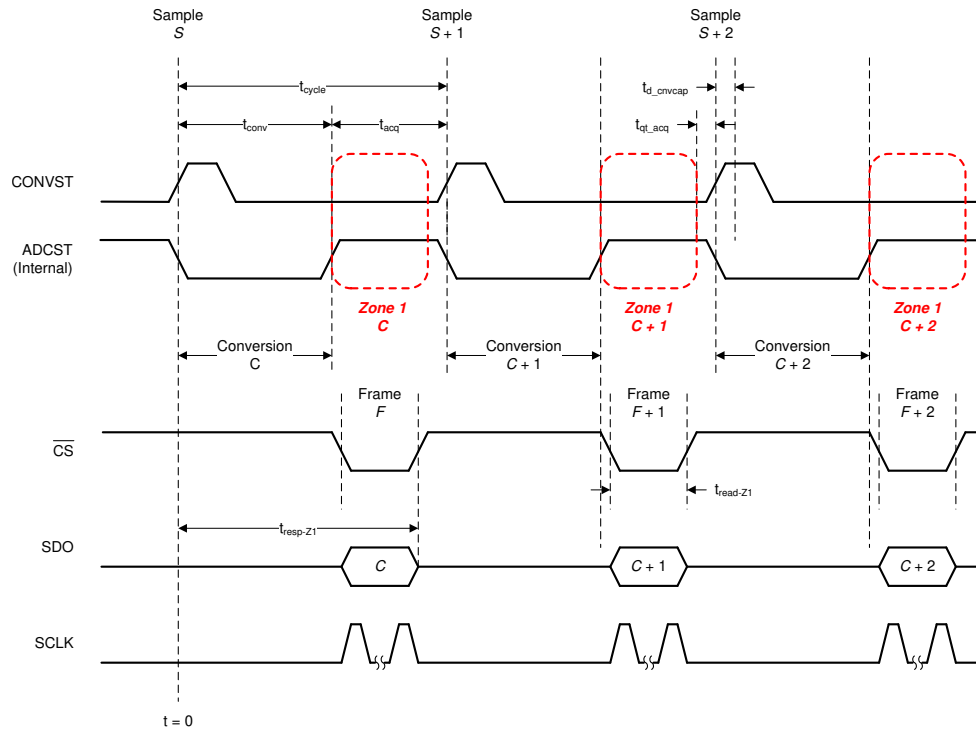
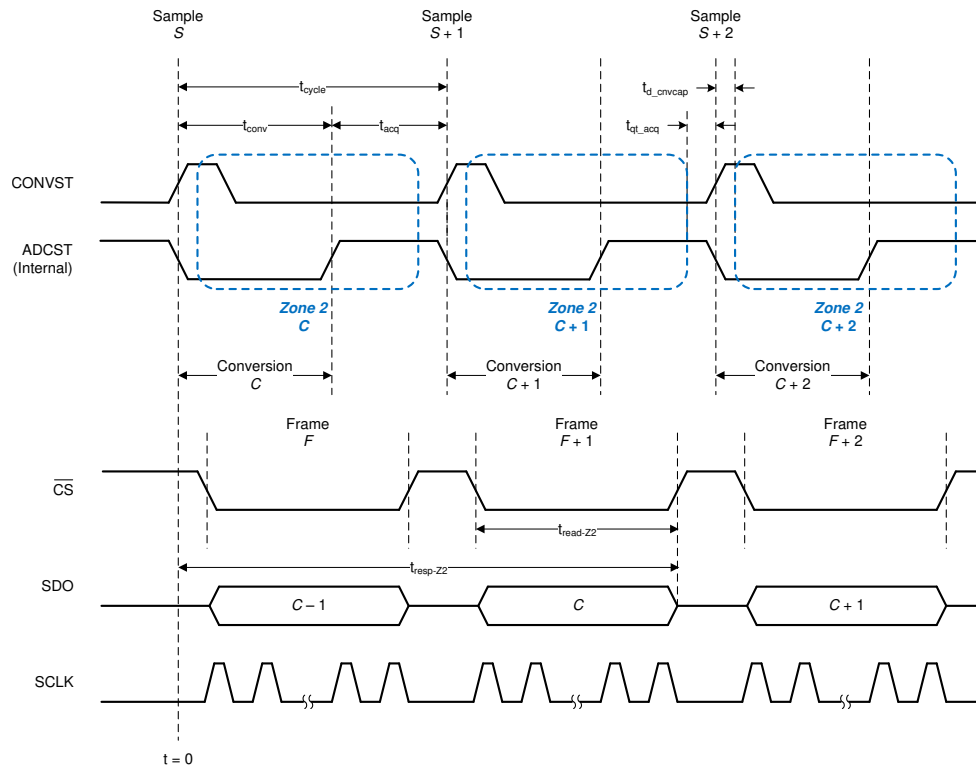

Figure 6-16. Zone 1 Data Transfer
Figure 6-17. Zone 2 Data Transfer
Figure 6-16 and Figure 6-17 illustrate interleaving of three conversion cycles (C , $C + 1$, and $C + 2$) with three data transfer frames (F , $F + 1$, and $F + 2$) in zone 1 and in zone 2, respectively.
- Extended data transfer window, as shown in Figure 6-17.